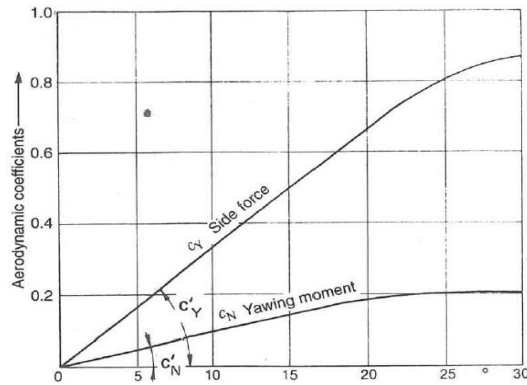

Fig.15: Plot of side force and yawing moment with different yawing angle [Hucho, 1998]
2. Determine the side force and yawing moment with variation of side slip angle (Fig. 15).